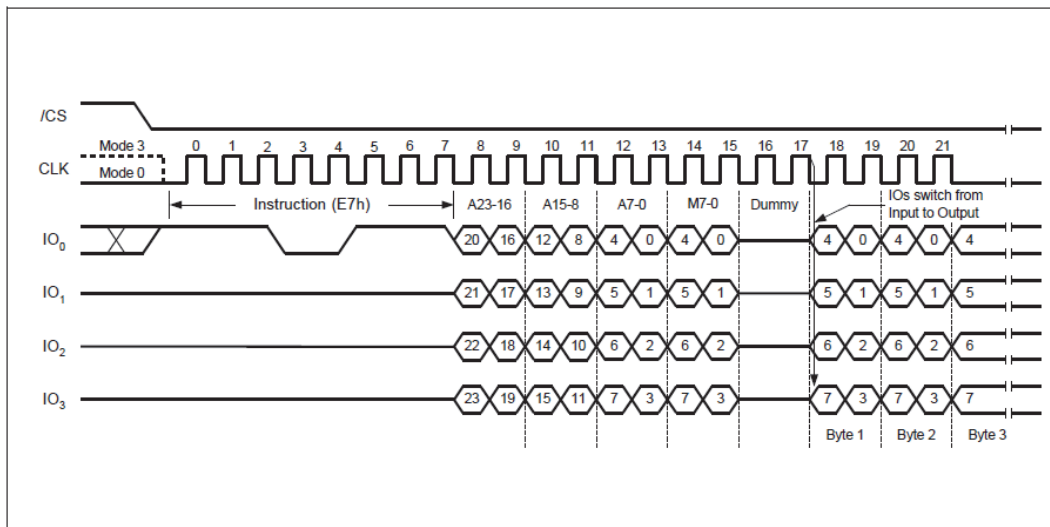

Figure 20, Quad I/O Word Fast Read Sequence Diagram (M5-4 ≠ (1, 0))
The Quad I/O Word Fast Read command is similar to the Quad I/O Fast Read command except that the lowest address bit (A0) must equal 0 and only 2-dummy clock. The command sequence is shown in followed Figure 20. The first byte addressed can be at any location. The address is automatically incremented to the next higher address after each byte of data is shifted out. The Quad Enable bit (QE) of Status Register (S9) must be set to enable for the Quad I/O Word Fast read command.